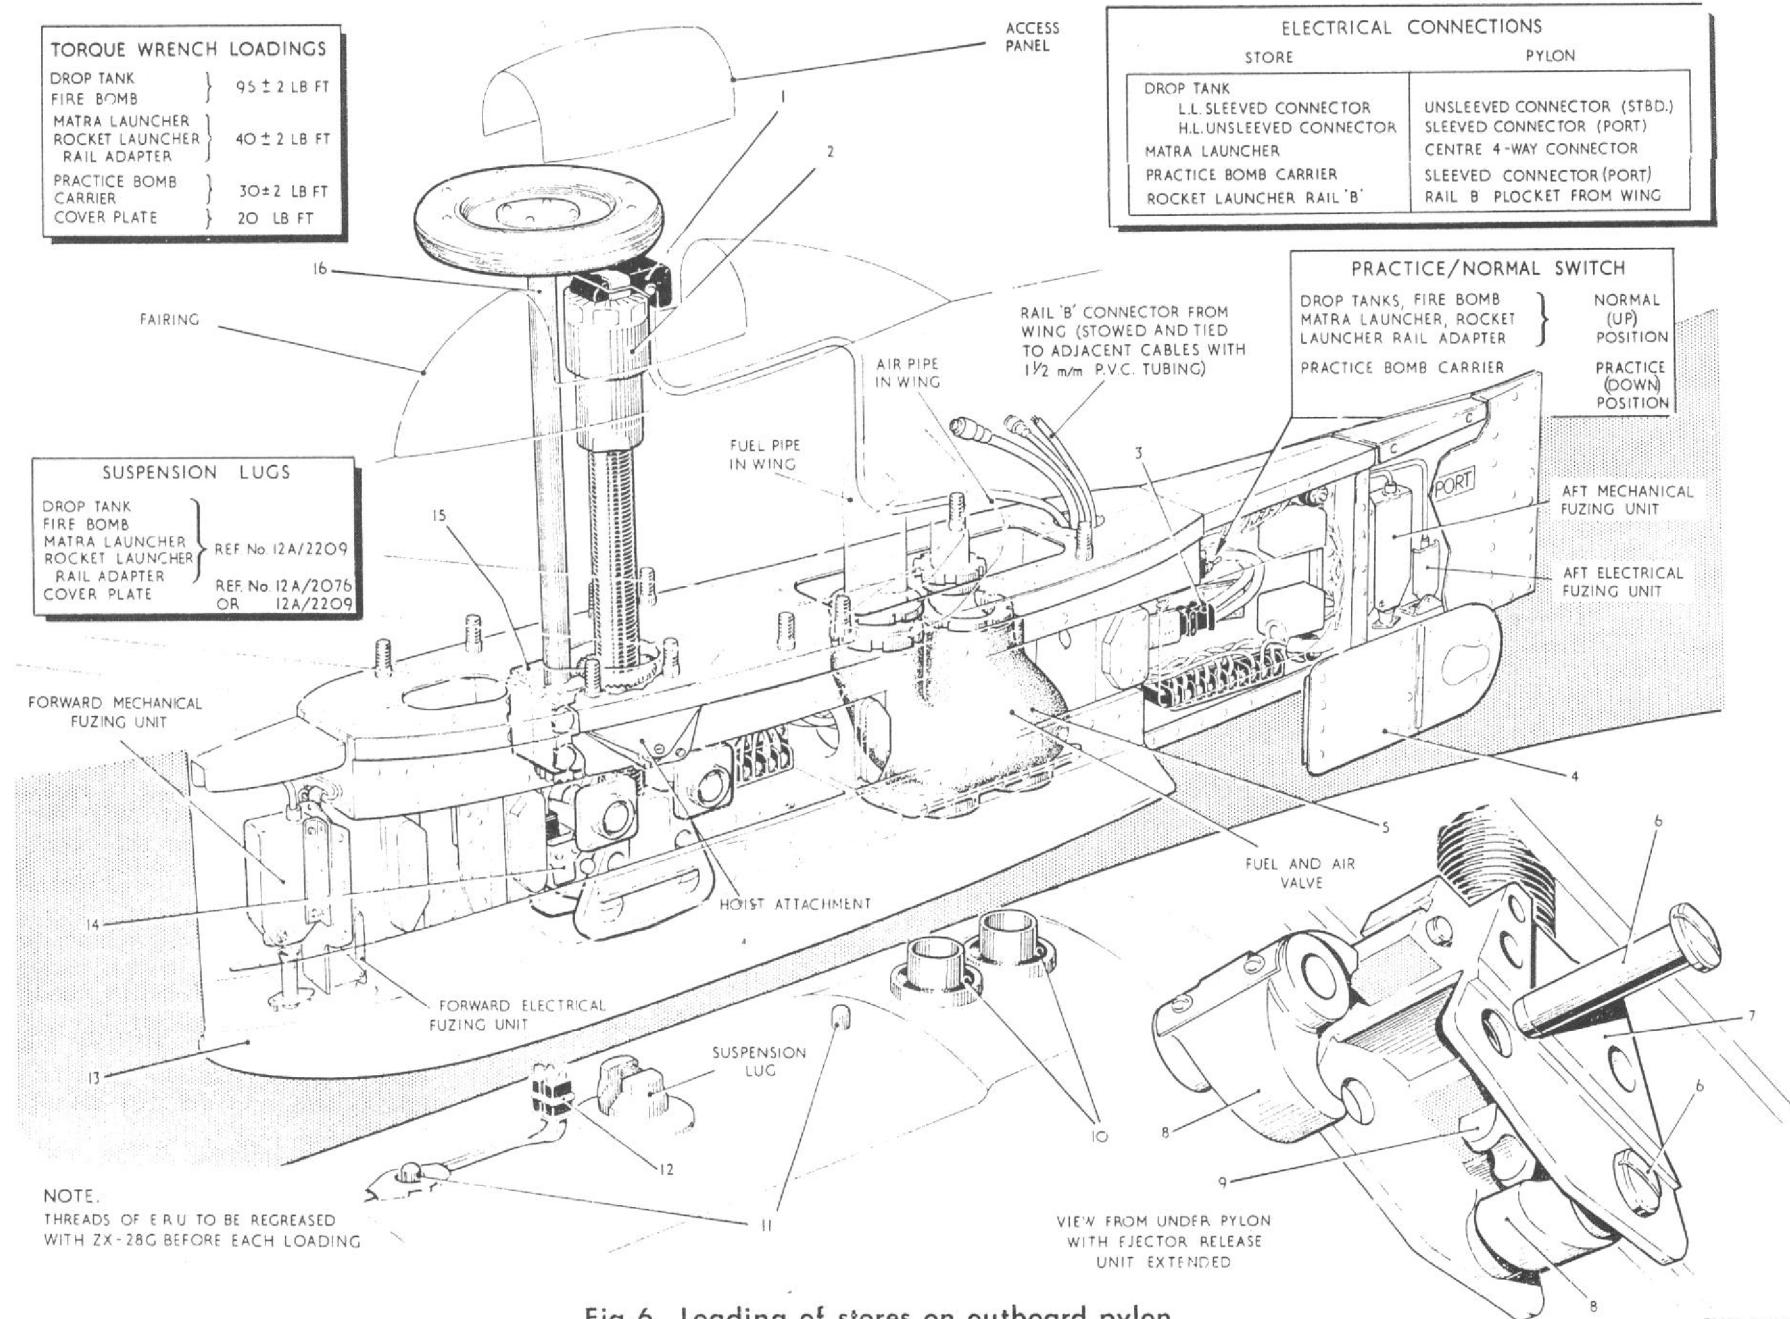

Fig.6 Loading of stores on outboard pylon
Fitting and removal of outboard drop tanks (fig. 6)
36. Three polythene bottles (*Sect. 3, Chap. 8, Fig. 6*) are provided for the drainage of any water that may exist in the hood and windscreen spray pipes. The bottles are provided with straps by which they are secured with pip-pins to mountings at frames 8 and 10 on the starboard side of the cabin and at frame 12 on the port side. Flexible drain pipes are attached to, and feed into, the caps of the bottles. Each bottle contains sponge rings, which are taped together to form single elements and to facilitate the removal of the elements from the bottles. At the periodicities specified in the relevant Servicing Schedules, the bottles with straps still attached, should be unscrewed from their respective caps, after first removing the pip-pins. The sponge elements should then be removed by means of the tapes, the elements squeezed dry, the bottles emptied and the elements replaced in the bottles. When replacing the bottles, it is essential to ensure that they are screwed fully home into their respective caps to ensure an effective seal before the pip-pins are refitted to secure the bottles into their mountings. Ensure that the vent holes in the caps are not obstructed.